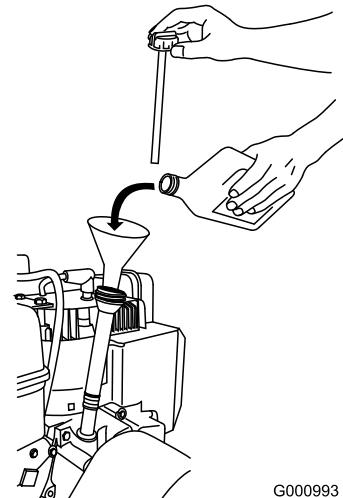

Figure 12
- Remove the dipstick and **slowly** pour oil into the oil fill tube to raise the oil level to the Full mark on the dipstick. **Do not overfill** (Figure 12).